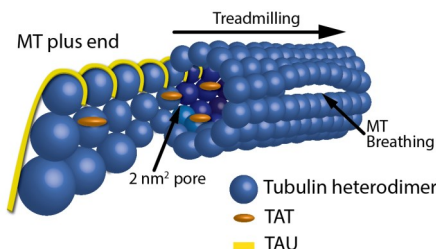

Figure 1. MT lumen with αTAT1
Post-translational modifications (PTMs) of microtubules (MTs) were first discovered over 40 years ago (1) and are a mechanism to regulate MT activity. The acetylation of lysine 40 (K40) of α-tubulin by the α-tubulin N-acetyltransferase 1 (αTAT1) (Fig. 1) is the most studied acetylated mark of tubulin. Most PTMs of MTs are found on the C-terminus, but K40 is located on the luminal side of MTs. It is unclear whether the acetylation of K40 influences MT stability, but recent work using Cryo-EM has observed conformational changes to MTs upon acetylation at K40 (2). In addition, it is believed that MT-PTMs are associated with the differential binding of MT-associated proteins (MAPs) and kinesin motor proteins to MTs (3,4). While further studies are needed to define the role MT acetylation plays in regulating cellular processes, abnormal acetylation has been linked to neurodegenerative disorders, ciliopathies, and cancers (5).